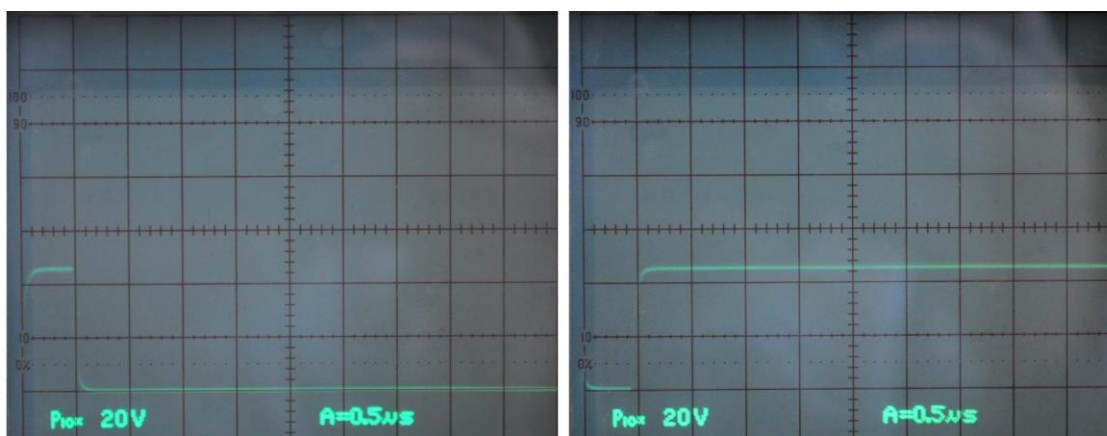

Figure 9 - Trigger Out Signals
2. If a low to high pulse is desired, set the *Trigger Out Slope* to *POSITIVE*, otherwise for a high to low pulse set the *Trigger Out Slope* to *NEGATIVE*. Refer to Figure 9.
3. Set *Trigger Out Enabled* to *True*, refer to Figure 9, this will enable the output and disable Recorder Out and Wide Band Video Out.